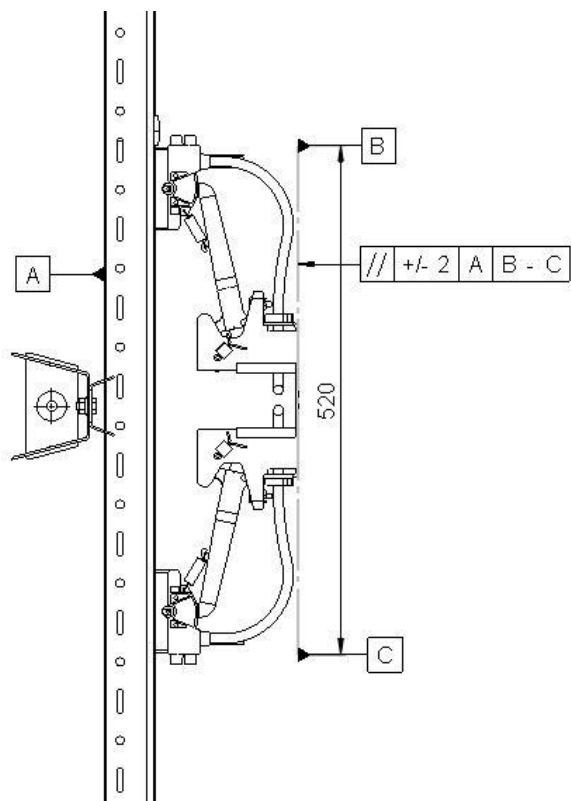

Fig. 89: Tolerance parallelism
- Observe the distance between the installing plane of the current collector unit and the contact surface of the conductor rail according to the installation drawing (see Fig. 86 to Fig. 89):
- The current collector must be perpendicular to the contact surface (see Fig. 86 to Fig. 89). If necessary, the position of the current collector must be adjusted. A height offset can lead to damage to the surface contacts and the insulating profile.